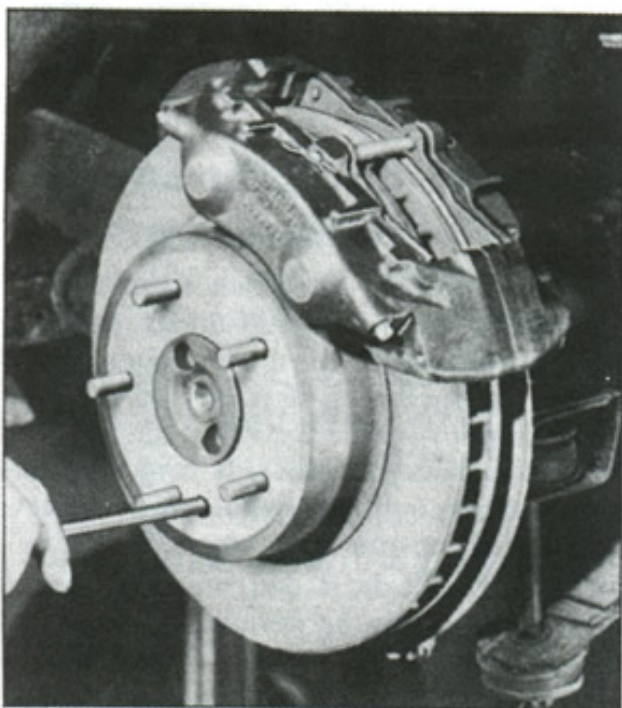

Fig. 28 — Parking Brake Adjustment
10. The brake shoe adjustment (for parking brakes) is accessible through either of two holes in the disc and drive plate flanges (fig. 28).